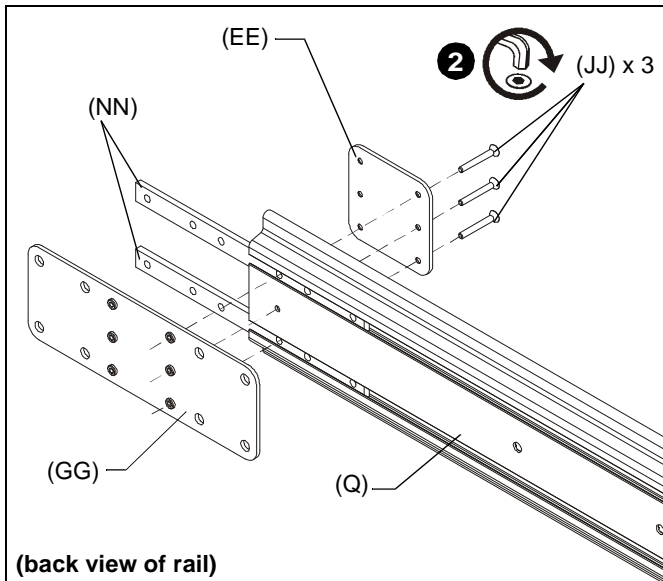

Figure 11
2. Secure connect bracket (EE) to front of mounting rail (Q) using three 10-24 x 1-1/2" flat head cap screws (JJ) fastened through one side of connect bracket, mounting rail, tie bars (NN) and into connector plate (GG). (See Figure 11)